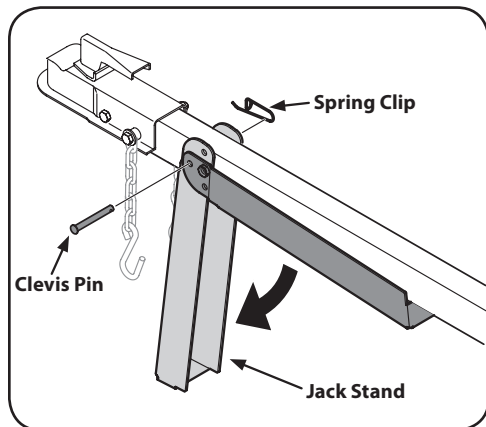

Figure 3-1
7. Remove the spring clip and clevis pin from the jack stand on the tongue and then pivot the jack stand towards the ground into the operating position. See Figure 3-1.
8. Secure the jack stand in position with the clevis pin and spring clip. See Figure 3-1.